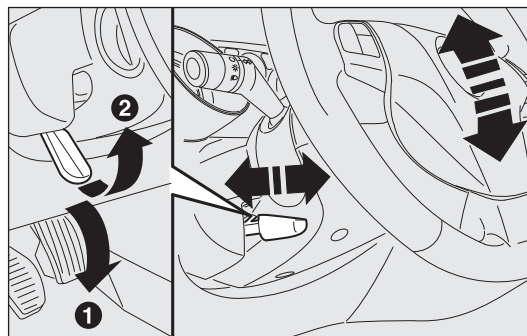

fig. 35
- release lever A-fig. 35 by pushing it forwards (position 1);